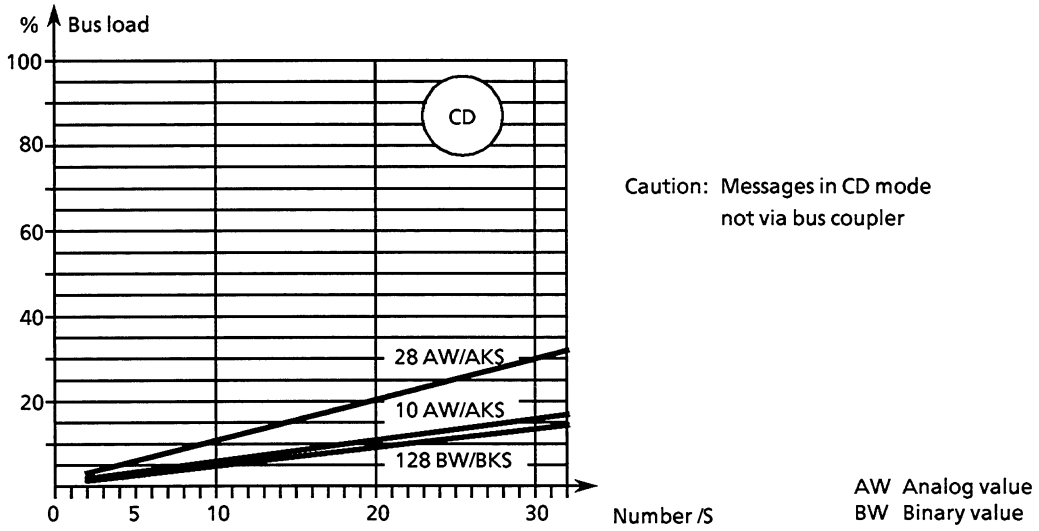

Bild 14 Bus load characteristic curve for cyclic data exchange AS - AS with function blocks AKS and BKS in CD mode
- Fig. 14 to 17 show: with DI coupling with one target address 1 % bus load corresponds to 1 AKS₂₈/s).
5.3 Cyclic Data Exchange AS - Computer (see Fig. 14 to 17)